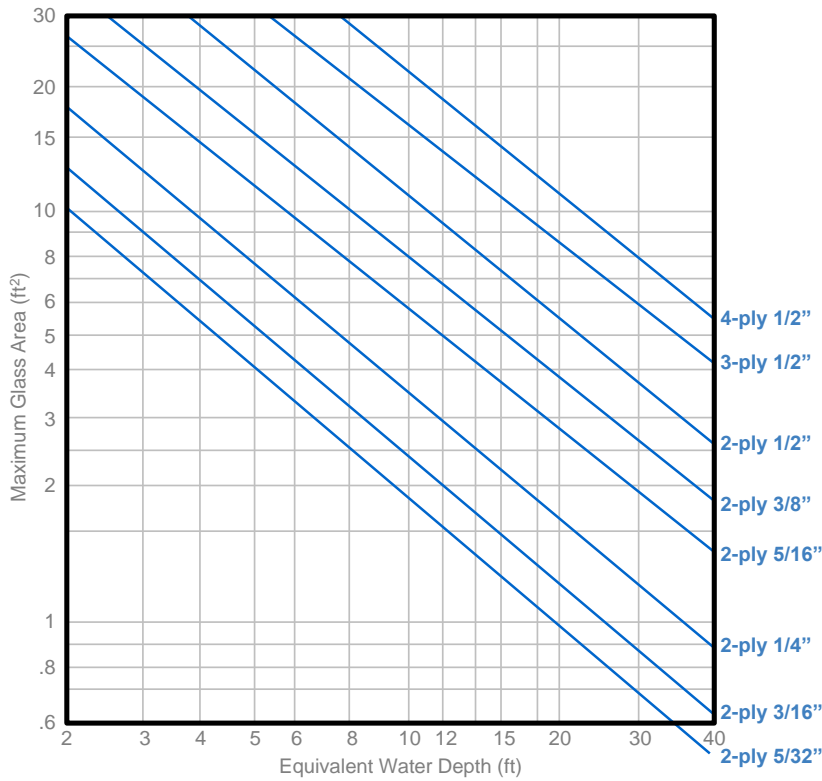

FIGURE 2: SELECTION CHART—LAMINATED FULLY TEMPERED GLASS
2. Use a safety factor of ten. Figure 2 is based on this safety factor.
The window area measures 18 square feet and the equivalent water measures 5 feet. Use Figure 2 to pinpoint the location where the glass area and water depth intersect. Figure 2 applies to fully tempered glass that is firmly supported on all four edges. The minimum glass thickness is represented by the diagonal line directly above this intersection, providing you with the minimum recommended laminated glass makeup of two plies of 1/2" fully tempered glass.